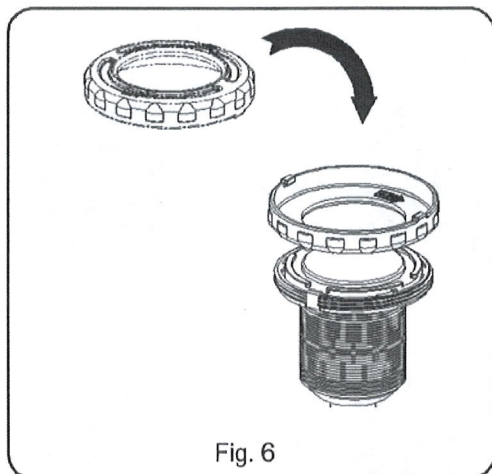

Fig. 6
3. Twist the front bezel through 90° to remove it from the light (Fig. 5). Reverse the bezel and use as a key to remove the light retaining ring, by turning it anti-clockwise (Fig. 6).